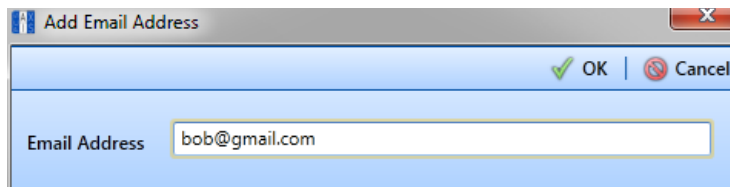

Figure 12-5. Add Email Address
- 3 Click **+** **Add Email** to open the *Add Email Address* dialog box (Figure 12-5). Type the user's email address in the **Email Address** field and then click **✓ OK**. Repeat this step as needed to add another email address.